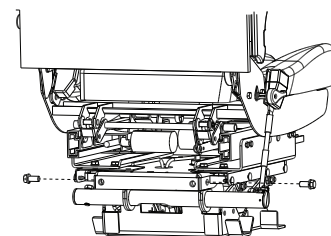

Figure 5
3. Slide the loose mounting bracket so that both brackets will be located on the inside of the seat mounting flange. **See Figure 5.**